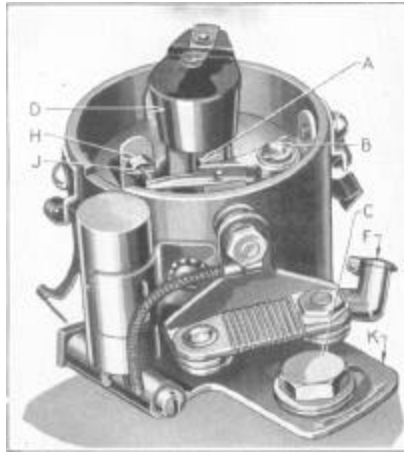
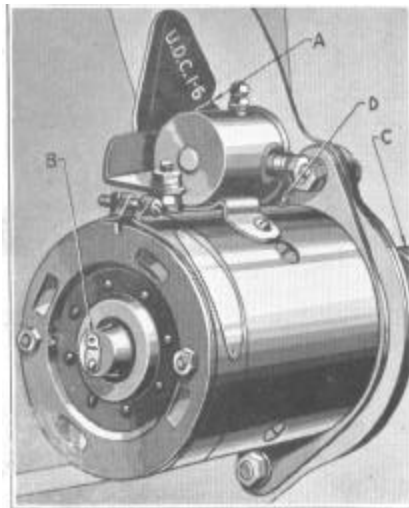

Figure 3
Figure 4
Loosen the distributor clamp screw (C), Figure 3, and turn the distributor until the fiber block (A) of the breaker arm is on the highest point of the cam. Measure
The oil cup (F), Figure 3, should be filled with oil every 2,000 miles. At the same time remove the distributor cap (not shown) and rotor arm (D), placing a few drops of oil on the top of the shaft, one drop of oil on the breaker arm pivot (B), and apply a light coating of vaseline on the cam block (A).
To determine this, remove the spark plug from number one (front) cylinder. Place the finger over the spark plug hole and crank the engine slowly, using the hand crank. Air pressure against the finger indicates that the piston is coming up on the compression stroke. After this is felt, continue cranking the engine slowly until the mark "U. D. C. 1 and 6" is directly in line with the pointer on timing inspection hole in the rear support plate of the motor as indicated at (A), Figure 4. the piston is then at U. D. C. and ready to move downward on the power stroke.
Turn the distributor housing clockwise to the limit of the slot in the clamping plate (K), Figure 3. Remove the central cable from the distributor cap and place the bare end about 1A" from the intake manifold. With the ignition turned on and the U. D. C. 1-6 mark on the flywheel in line with the pointer on the inspection hole (Figure 4), turn the distributor body counterclockwise slowly just until a spark jumps from the high tension wire to the intake manifold. Tighten clamp screw (C), replace central cable in distributor cap and clamp cap on distributor.
The foregoing operations give dead center timing. This, however, due to variations in fuel characteristics (octane rating) is only approximately correct. To get the correct setting the car should be driven until the engine has reached its normal operating temperature. Allow the car to slow down to 7 miles per hour in high gear on a level, hard-surfaced road, then depress the accelerator rapidly to its limit of travel. As the car accelerates from 10 to 15 miles per hour a slight spark knock should develop. If a knock is not heard, loosen distributor clamp screw (C), Figure 3, and turn the distributor counterclockwise one graduation of the clamping plate (K), Figure 3, and repeat the acceleration test. Repeat this operation until the knock is heard. The higher the octane rating of the gasoline being used, the greater the advance required to get maximum performance and fuel economy. However, the timing should not be set more than 3/4" ahead of the U. D. C. mark on the flywheel.
The front and rear bearings of the starting motor should be lubricated at (B and D), Figure 4, with a few drops of light oil every 1,000 miles.
The threads of the Bendix screw shaft (C), Figure 4, should be cleaned occasionally with a brush and kerosene to remove gum and dirt.